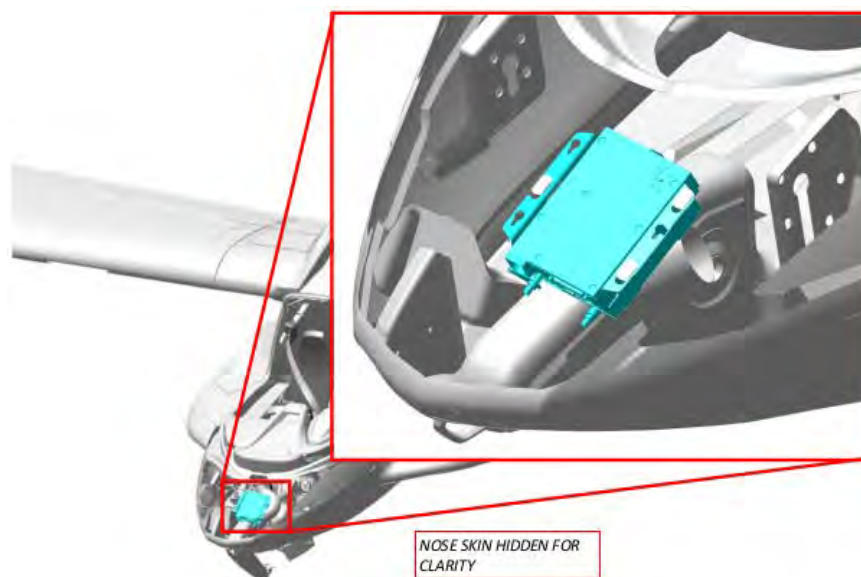

FIGURE 14-65
1. Install Radio/Transponder bracket assembly. (See Figure 14-65.)